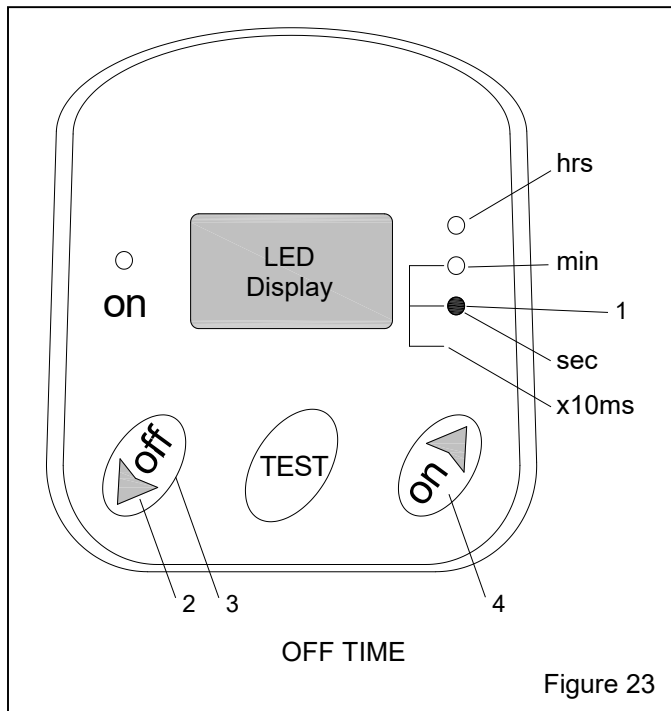

Figure 23
5.9.2 Resetting pulse OFF time (time between each pulse) – Figure 23
NOTE: The numbers shown in Figure 23 signify the following step numbers:
1. Make sure the OFF subrange is set to seconds. The sec (seconds) indicator light should be lit, as shown in Figure 23. If the subrange is other than seconds, reset it as noted in Section 5.9.5.1.